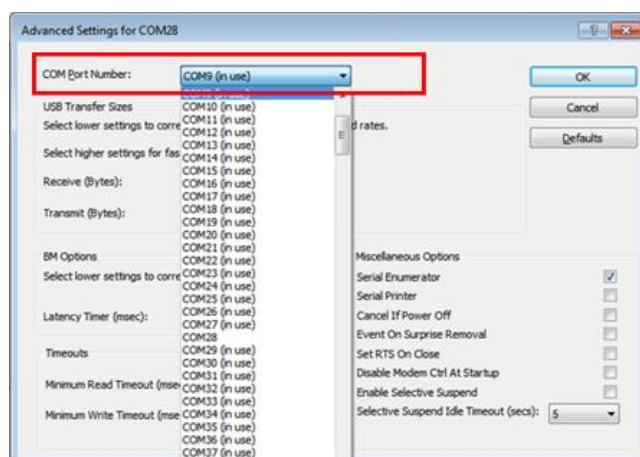

Fig. 3.20
8) Select the COM Port Number 'COM11', and click 'OK' (Fig. 3.20), the communication port modification is completed.